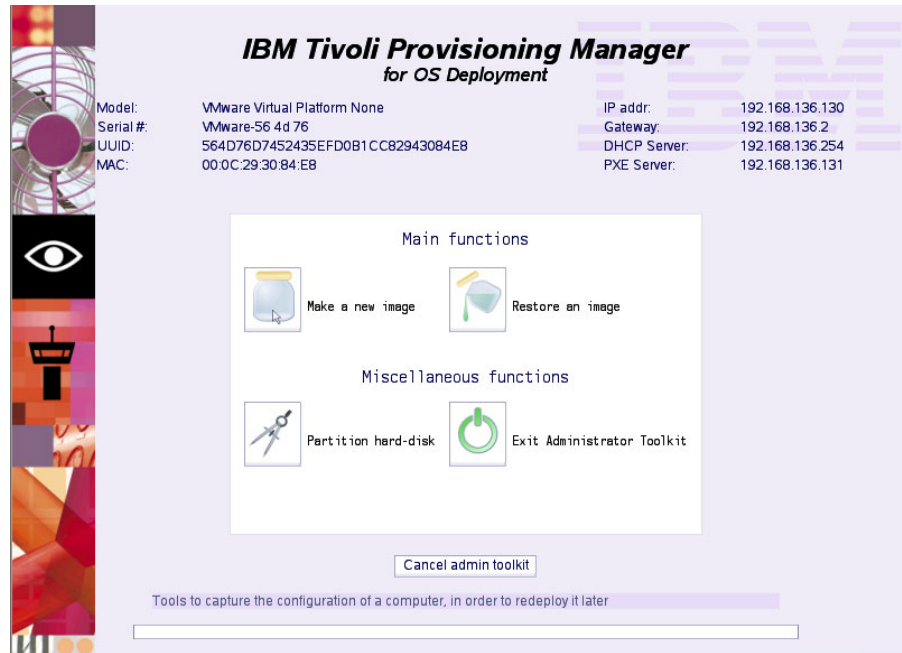

Figure 3-8 Select make new image from the admin toolkit
4. Go to client SurePOS system that is being cloned and the admin toolkit should be loaded. Select **“Make a new image”** as shown in Figure 3-8 on page 62.